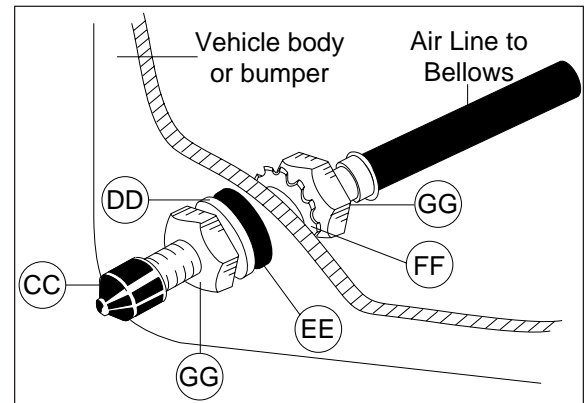

Figure 14
3. Cut the air line assembly (AA) in two equal lengths.
4. Place a  $\frac{5}{16}$ " nut (GG) and a star washer (FF) on the air valve. Leave enough of the inflation valve in front of the nut to extend through the hole and have room for the rubber washer (EE), flat washer (DD), and  $\frac{5}{16}$ " nut (GG) and cap (CC). There should be enough valve exposed after installation - approximately  $\frac{1}{2}$ " - to easily apply a pressure gauge or an air chuck (Figure 14).
5. Push the inflation valve through the hole and use the rubber washer (EE), flat washer (DD), and another  $\frac{5}{16}$  " nut (GG) to secure it in place. Tighten the nuts to secure the assembly in place (Figure 14).